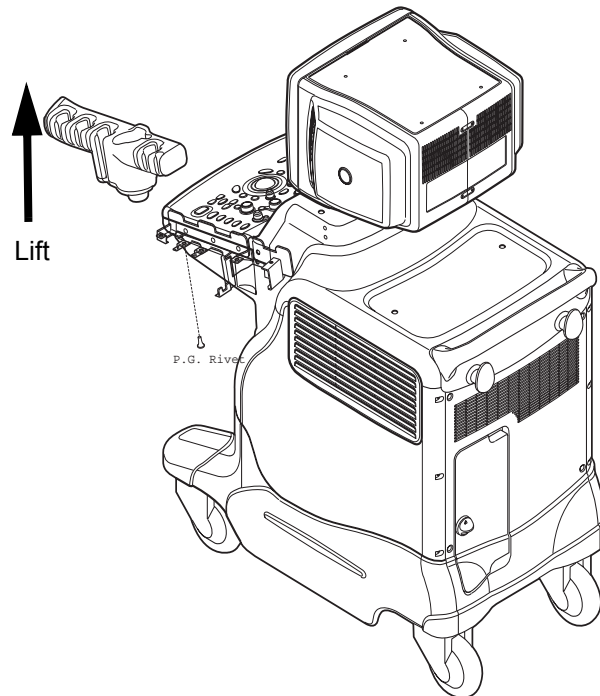

Figure 8-25 PROBE HOLDER DISASSEMBLY
- 2.) Lift the Probe Holder from the Bracket. Refer to Figure 8-25 on page 8-18 .